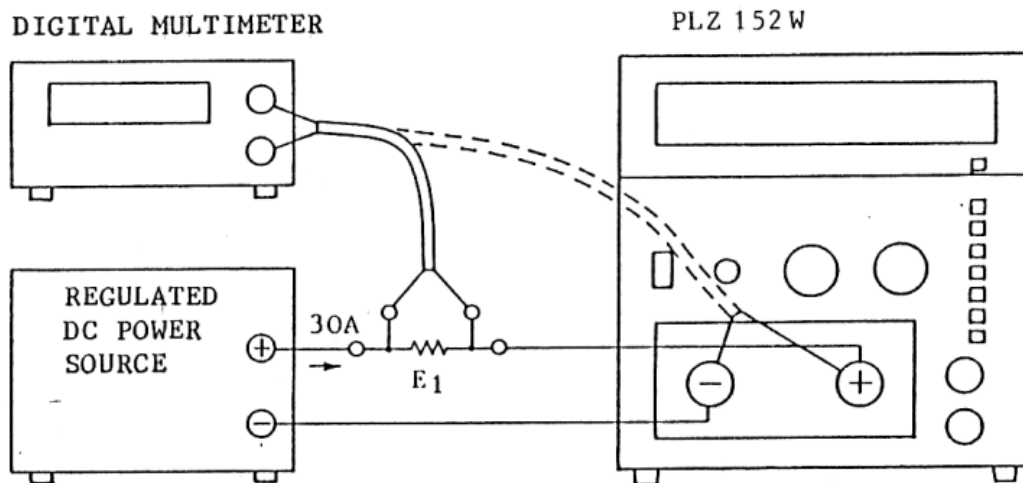

Figure 4.3.1 Calibration Test Setup
Periodically the Digital Meter must be calibrated. Calibrate the ammeter function first. Prepare a test setup as shown in Figure 4.3.1. Turn POWER switch ON (in) and allow the circuits to stabilize for 30 minutes before proceeding.
4.3.2 Test Setup (See Figure 4.3.1)
4.4.2 Test Setup (See Figure 4.3.1)
4.5.2 Test Setup (See Figure 4.3.1)
4.6.2 Test Setup (See Figure 4.3.1)
4.7.2 Test Setup (See Figure 4.3.1)